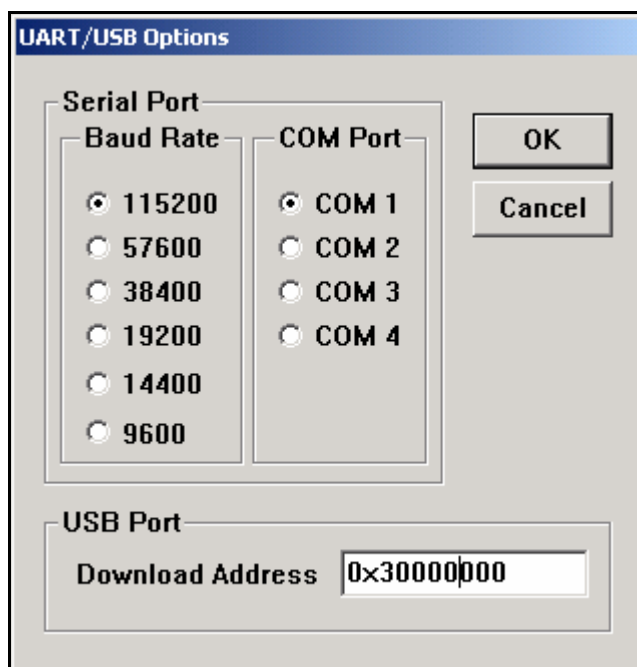

Figure 6-4 UART/USB Options
6. Now select the 'Options' from the 'Configuration' menu in the DNW application window to set the UART/USB options. The following window will appear on your screen. Select the Baud Rate and COM Port as shown in the figure 6-4, enter the download address as '0x30000000' and then click on the 'OK' button to continue.